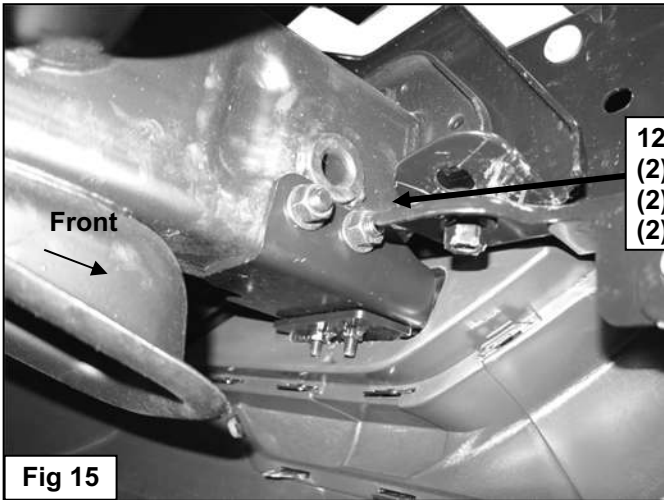

Fig 15
5. Select (1) Frame Bracket, (**Figure 12**). Insert the Frame Bracket through the opening in the bumper, (**Figure 13**). Line up the holes in the Bracket with the holes in the end of the frame for the tow hook. Select (1) 12mm Double Bolt Plate, (**Figure 14**). Insert the Double Bolt Plate into the end of the frame, through the (2) holes in the side of the frame and out through the Frame Bracket, (**Figure 15**). Secure the Frame Bracket to the Bolt Plate with (2) 12mm Flat Washers and (2) 12mm Lock Washers and (2) 12mm Hex Nuts. Snug but do not fully tighten hardware at this time.